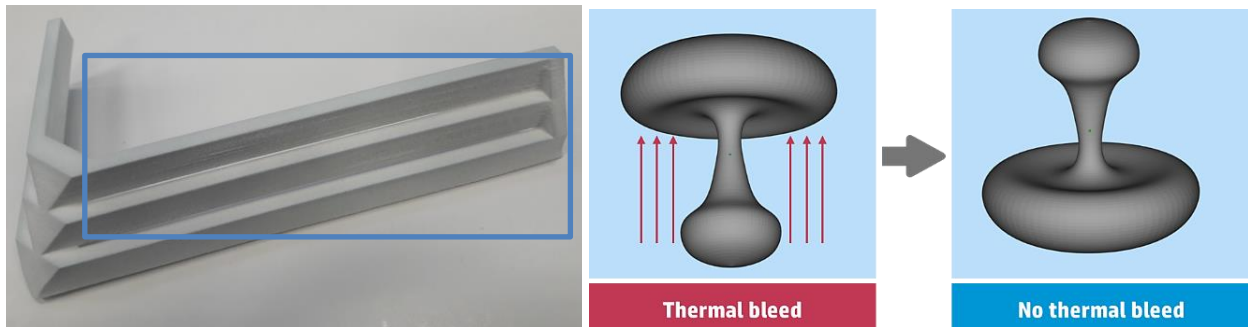

Figure 20: *Left*) Example of thermal bleeding. *Right*) Orientation recommendations to alleviate thermal bleeding on the bottoms of parts.
- Favorable **orientation** is critical for parts that do not have their mass distributed homogeneously. It is recommended to print the thinner features facing down with the more massive section in the upper position to prevent thermal bleeding (**Figure 20**) due to excessive heat transfer.
Thermal bleeding appears when a part receives excessive energy and the surrounding white powder gets melted and attached to the surface of the object (**Figure 20**). To some extent, this effect is intrinsic to the technology and is accounted for with an escalation of the part's volume prior to printing. Therefore, not every situation where white powder is encountered should be classified as thermal bleeding and, instead, only when the dimensional accuracy of the part is affected beyond the capabilities of the system. Moreover, parts insufficiently cleaned by bead-blasting often display white areas that can be mistaken for thermal bleeds. In these cases, scratch the white surface with a hard object (like a piece of metal) and check if the powder is removable. If so, there is no energy excess but a cleaning deficit.
- Re-orient the part to minimize the bottom surface area, as shown in **Figure 20**.